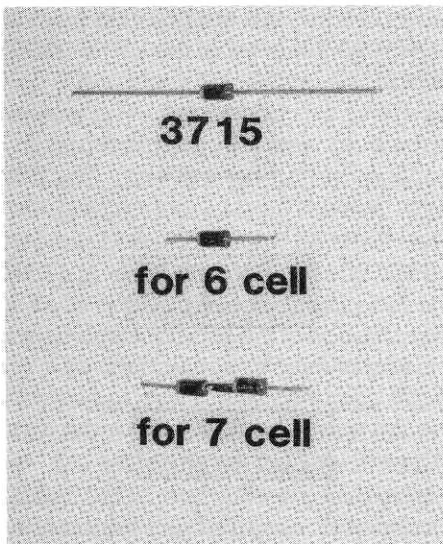

Fig. 140b
Now cut off the small red plug from the #6747 input power harness (fig. 140a). For a **6 cell battery** you will solder the diode to the small red wire of the input harness. Be certain that the stripe on the diode is on the switch side, not the battery plug side. For a **7 cell battery** you will solder the diode as you did for a 6 cell but you will solder another diode to the first one with the stripe on the switch side. See fig. 140b.
□ **Fig. 140b** Now solder black wire from switch to black wire from input harness. Check each of your solder connections and then tape up the solder joints and diodes so that they cannot short out on the chassis. (NOTE: If you can get some small shrink tubing, this will make for a cleaner-looking finished part.)